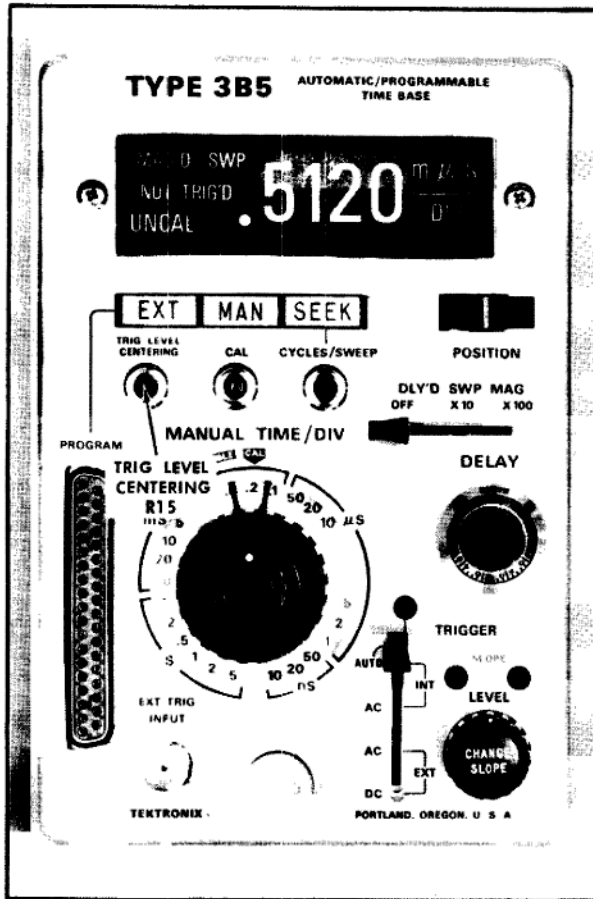

Fig. 6-3. Location of TRIG LEVEL CENTERING adjustment (front panel).
- e. ADJUST—TRIG LEVEL CENTERING adjustment, R15, (see Fig. 6-3), to setting where unit does not trigger (no trace and NOT TRIG'D readout on) for both + and — slope.